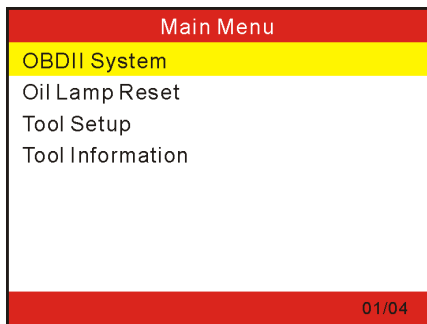
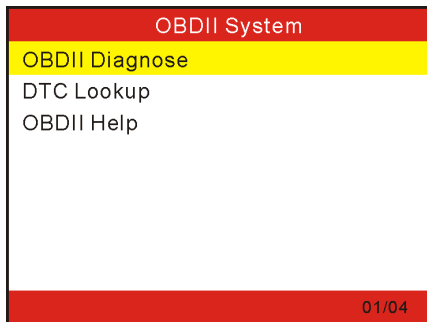

Figure 4-1
Figure 5-1
5. The screen will display interface as following figure 4-1.
In Figure 4-1, highlight [OBDII System] and press [**←**] to enter, the screen will display as following figure 5-1: